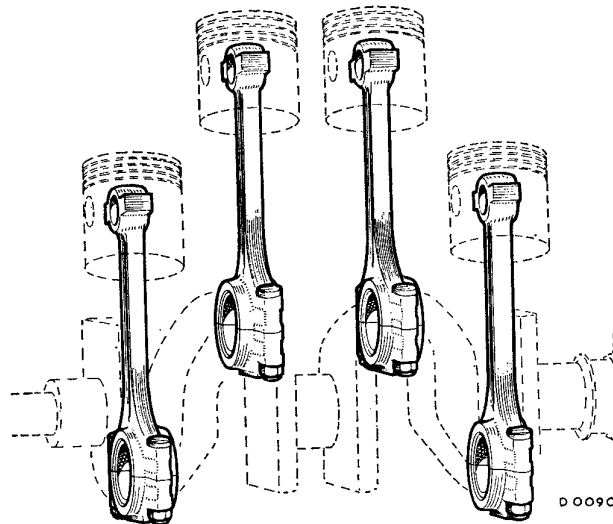

Fig. Aa.6
- (25) Reverse the removal procedure in (1) to (3) noting the following points.
**NOTE.**—The big-end bearings are offset on the connecting rods, the rods should be fitted so that the bearings of Nos. 1 and 3 are offset towards the rear of the engine, and the bearings of Nos. 2 and 4 are offset towards the front (see Fig. Aa.6).